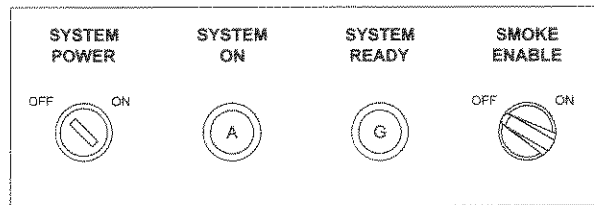

Figure 3-13 I/O Rack Enclosure Front Panel
6. Open the generator compartment door. The generator is mounted to a slide rail. There is a locking lever located on the front right hand side of the slide rail. Pull the lever out as you slide the generator out of the compartment. Once the stop is reached let go of the locking lever and be sure the generator is locked in position by pushing back on it. See Figure 3-13 for location.